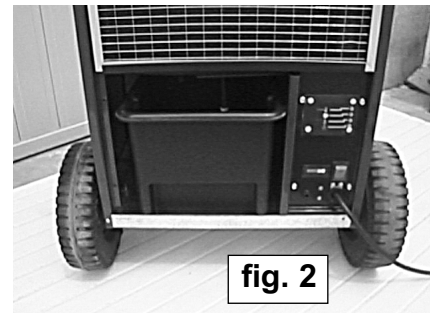

fig. 2
- A) Using the tank supplied as shown in fig.2. The tank must be emptied when the yellow 'tank full' LED lights up. Switch the unit off before emptying the tank and disconnect the mains plug. Remove the tank carefully to avoid spills and empty it. Slide the tank back into the unit ensuring that the level sensor is correctly placed within the tank.